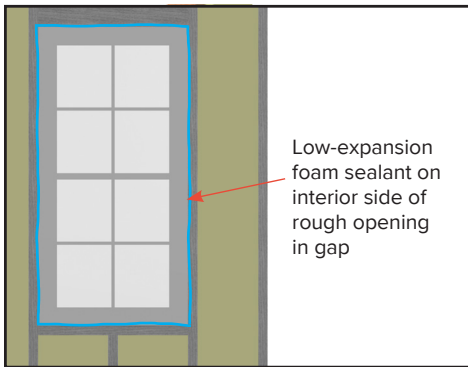

Figure 5. Air seal the interior side of the rough opening gap with low-expansion foam sealant.
- g. Air seal the interior side of the rough opening gap with low-expansion foam sealant intended for window installation. Avoid gaps or voids in the air seal. A tight interior air seal of the rough opening gap will promote proper drainage and prevent drafty window installations (see Figure 5).